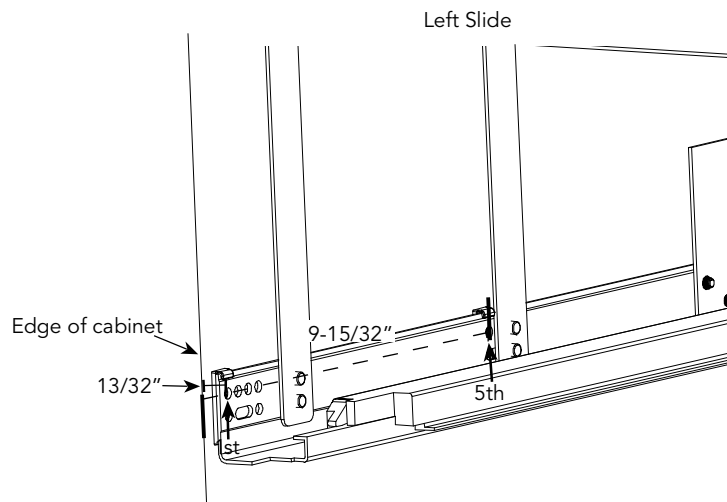

FIG. H-2
Attach (2) of the Blum spacers to the **right** slide. Attach one spacer in the first hole and the other spacer in the last hole (See Figure H-2).